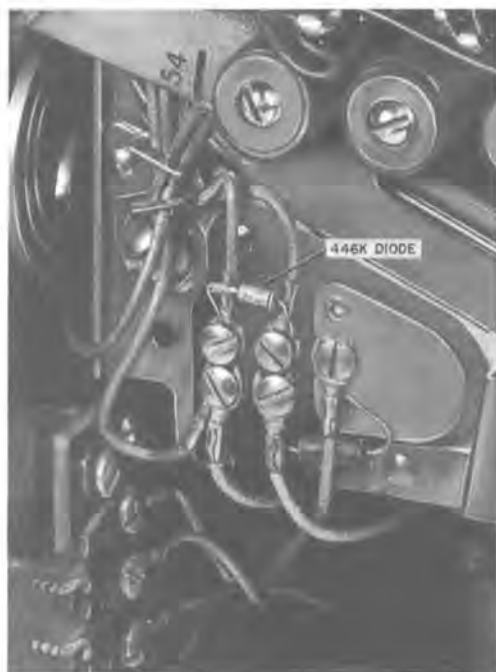

Fig. 2—Installation of 446K Diode
3.03 Install 446K diode between terminals A and E on coin chute terminal board (Fig. 2 and 3).